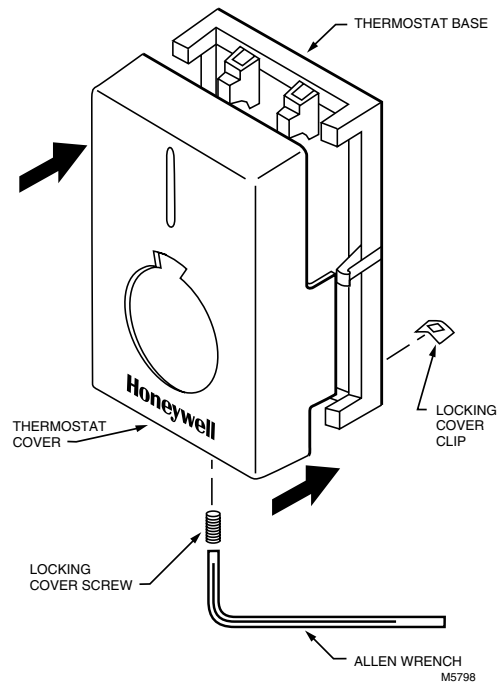

Fig. 7. Locking cover.
If locking cover feature is desired, insert the locking cover clip in the thermostat base before mounting the thermostat on the wall. See Fig. 7.
- 2 Insert the locking cover clip (included) into the slot at the back of thermostat base as shown in Fig. 7.